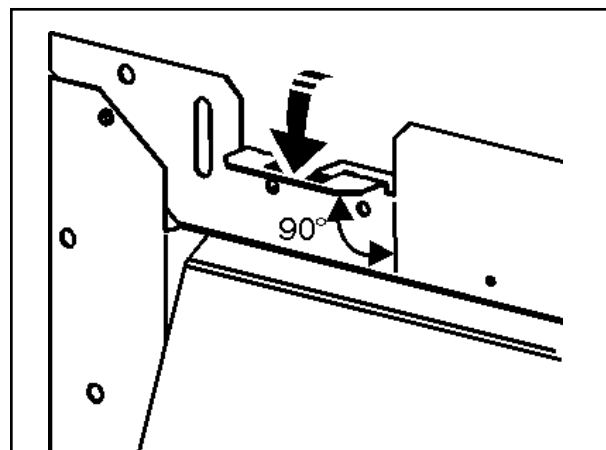

Figure 15. Fascia support brackets
2. As supplied the fascia support brackets may be flat against the heater body. Using a suitable tool or gloved hand bend the brackets as in figure 15.